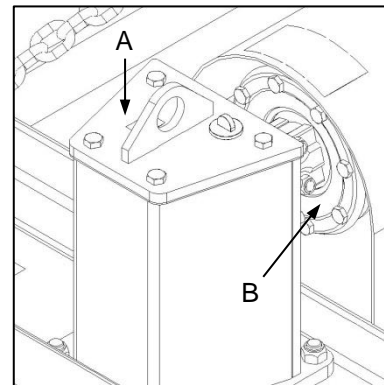

Fig. 5
- ✔ Discolouration or blistering of painted surfaces of the friction clutch housing (Fig. 5-B).
- ✔ The friction clutch housing feels significantly hotter than the surface of the gearbox casing (Fig. 5-A).
- ✔ Verkleuring of blaasvorming van geverfde oppervlakte van die wrywingkoppelaaromhulsel (Fig. 5-B).
- ✔ Die wrywingkoppelaaromhulsel voel beduidend warmer as die ratkasomhulsel (Fig. 5-A).